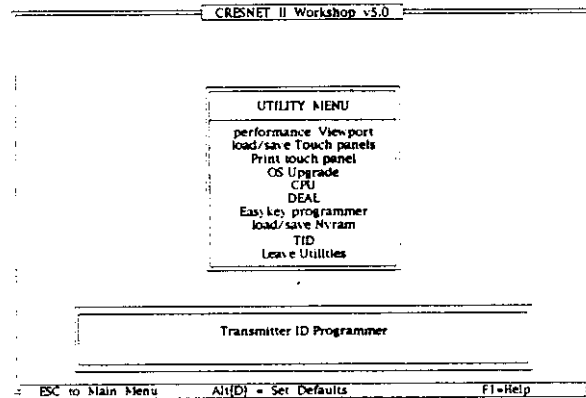

Figure 4. UTILITY MENU, Workshop
3. From the MAIN MENU, highlight Utilities and depress ENTER. The UTILITY MENU, illustrated in figure 4, appears on the display.